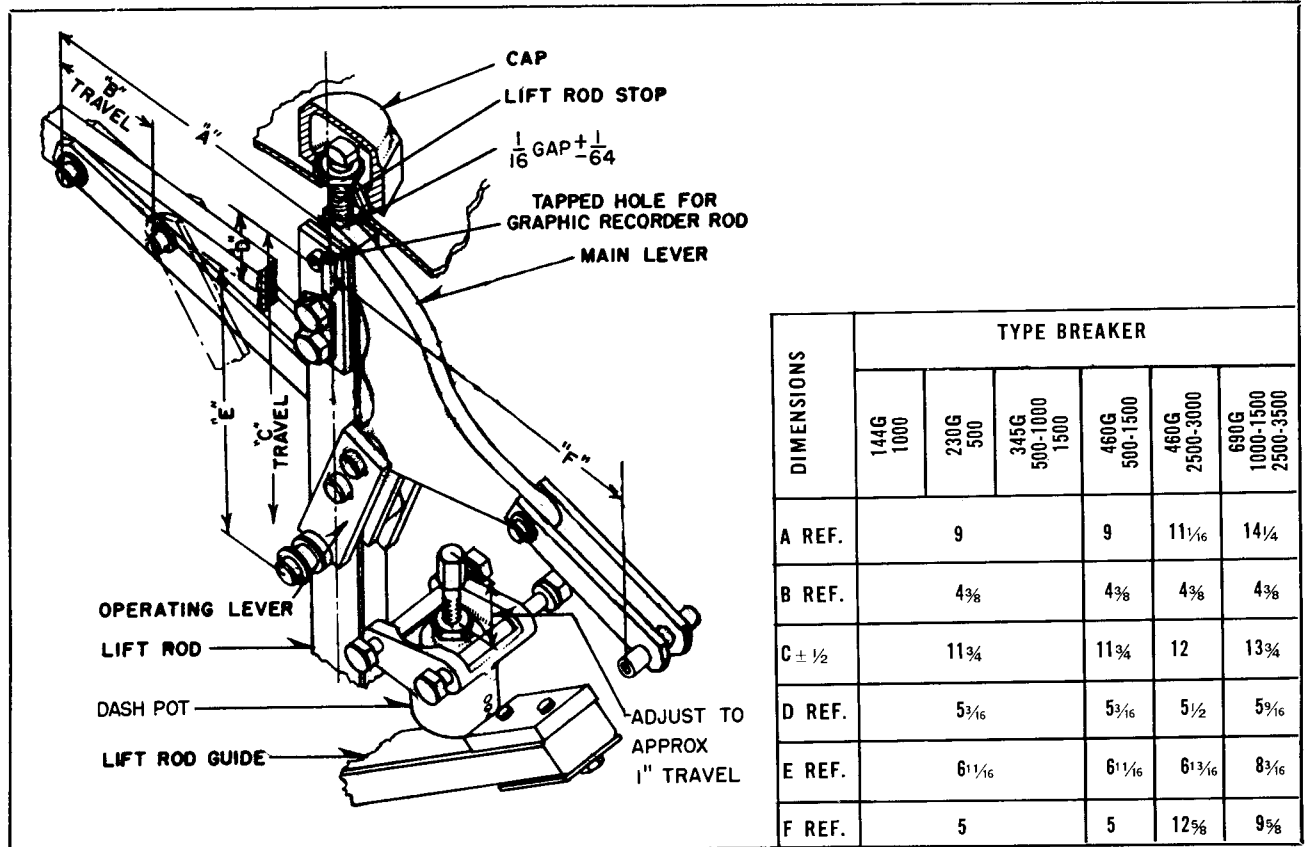

FIG. 7. Pole Unit Assemblies
this opening and screwed into a 10-32 tapped hole in a block on the side of the lift rod. See Fig. 7.
4. The pole unit lever assemblies. These levers are designed to transfer horizontal motion of the pull rod into straight-line vertical motion of the lift rod. (See Fig. 7).
2. Check clearance of the lift rod stops, see Fig. 7.